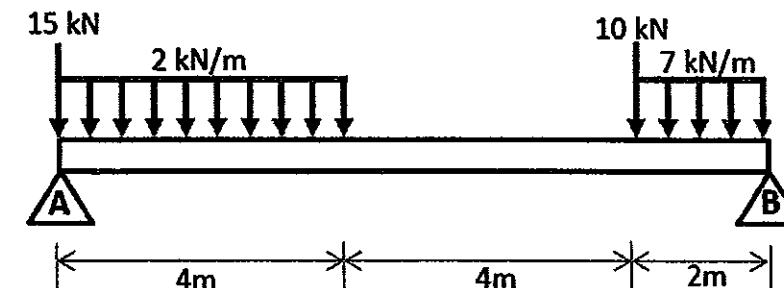

Figure 2 / Rajah 2
A simply supported beam carrying a few loads as shown on Figure 2 below.
- a) Calculate the reaction force for beam in Figure 2 and sketch the free body diagram.